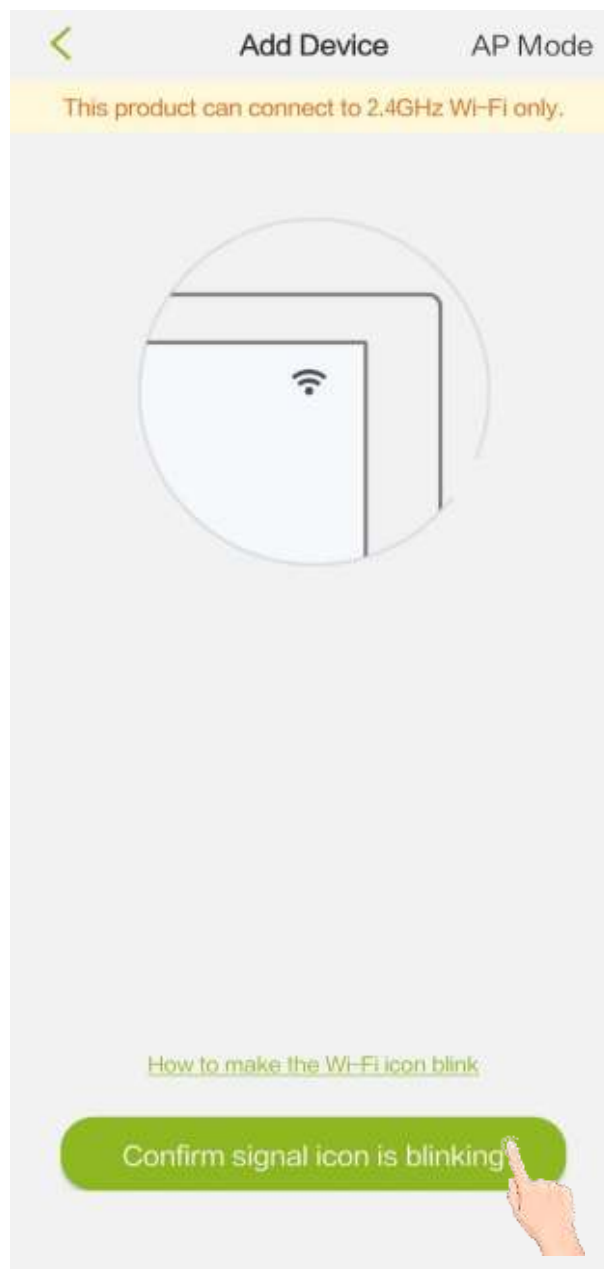

Fig. 2
- Touch **“Confirm signal icon is blinking”** (see **Fig.2**)